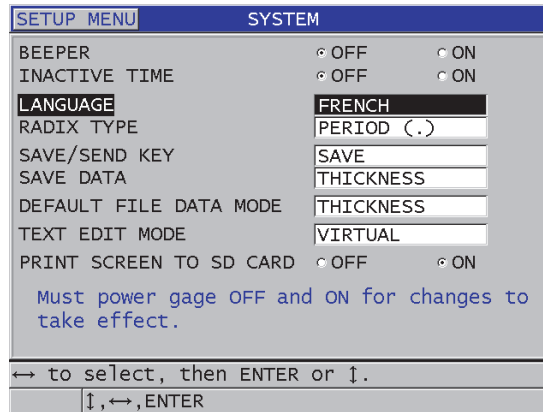

Figure 4-1 Selecting the user interface language
3. In the **SYSTEM** screen (see Figure 4-1 on page 64):